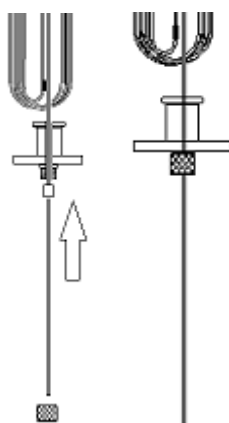

Fig. 71: Preparing the stainless steel holding loop
- b) Slide the retaining nut onto the needle end of the holding loop and tighten to the needle holder assembly (→ Fig. 71, page 134).